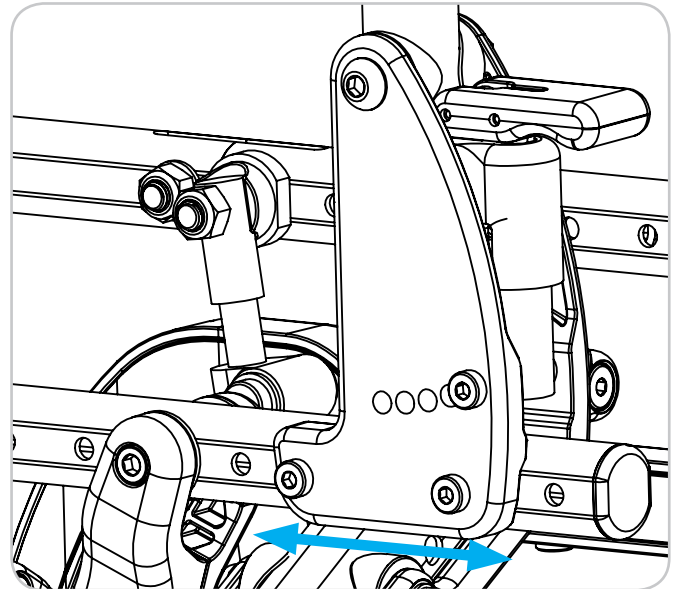

Figure 16
3. Using a 4mm hex wrench and a 10mm wrench, loosen the Hip Angle Adjustment bolt. Reference Figure 16, A.